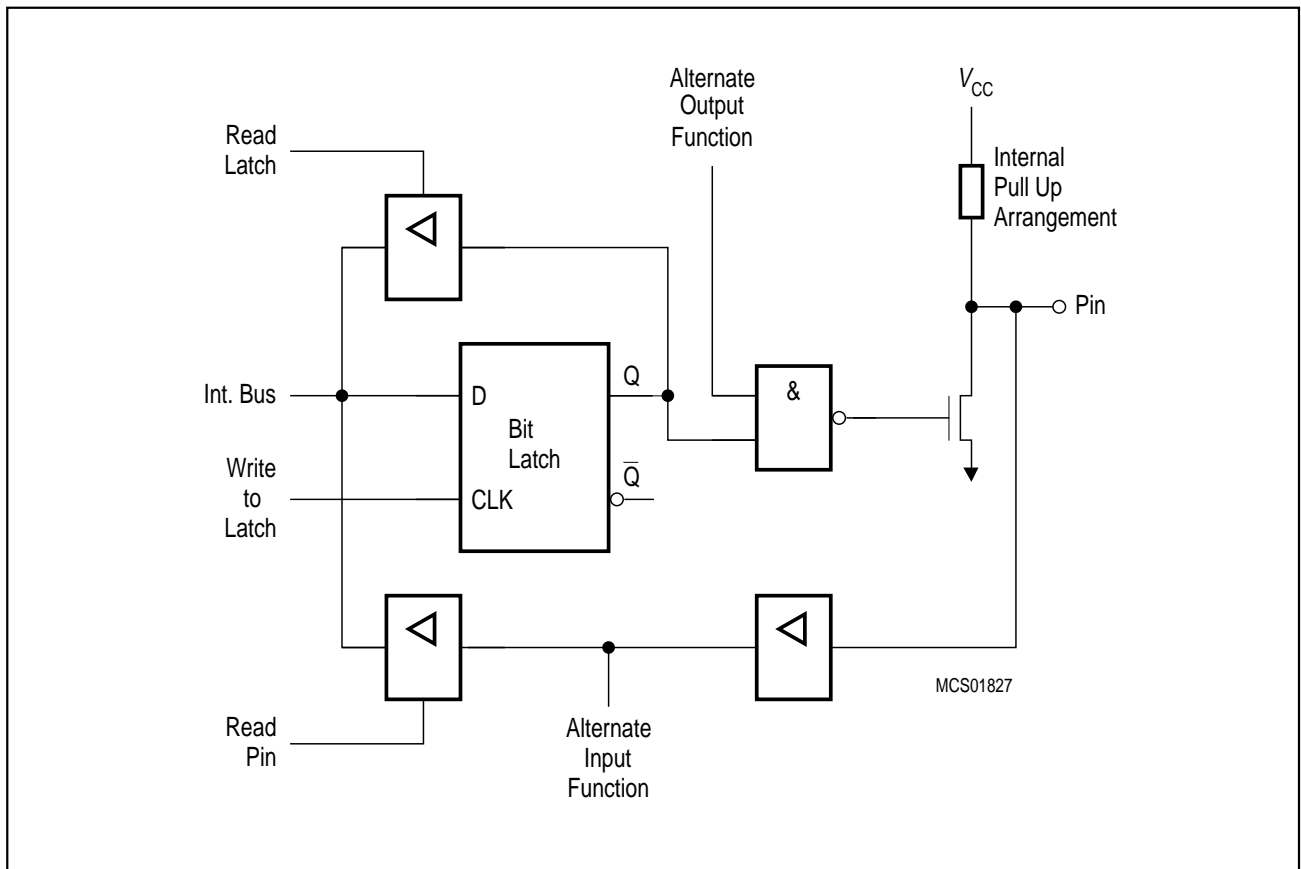
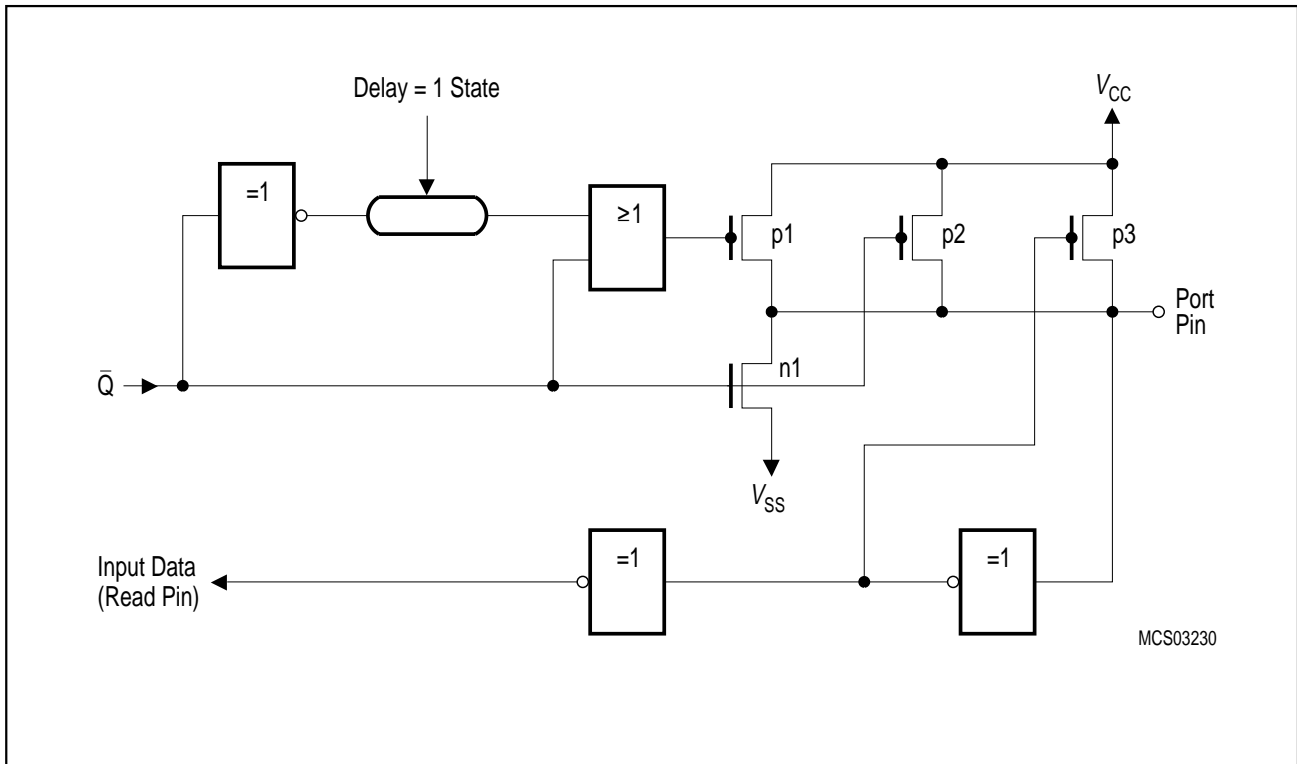

Figure 6-4
Figure 6-7
Figure 6-4 shows a functional diagram of a port latch with alternate function. To pass the alternate function to the output pin and vice versa, however, the gate between the latch and driver circuit must be open. Thus, to use the alternate input or output functions, the corresponding bit latch in the port SFR has to contain a one (1); otherwise the pulldown FET is on and the port pin is stuck at 0. After reset all port latches contain ones (1).
Figure 6-7 shows the detailed output driver (pullup arrangement) circuit of the the port 1 and 3 to 5 port lines. The basic circuitry of these ports is shown in **figure 6-4**. The pullup arrangement of these port lines has one n-channel pulldown FET and three pullup FETs: